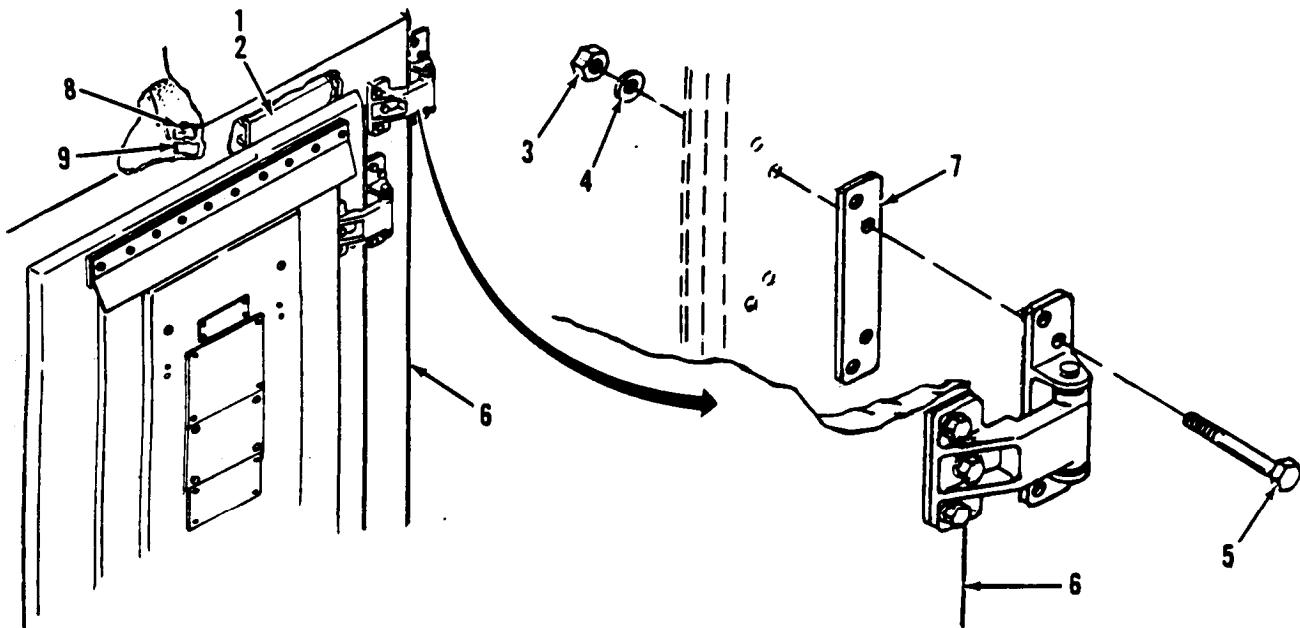

Figure 3-18. Outer Door Assembly Replacement.
*a. Inspect. (Figure 3-18)*
- (1) Inspect the outer door assembly (6) for external damage.
- (2) Inspect the silicone weather gasket (8) for tightness.
- (3) Inspect the RFI/EMI gasket (9) for wear and secure mounting on shielded shelter.
- (4) Inspect the door for positive closing and proper operation.
*b. Remove. (Figure 3-18)*
- (1) Remove and retain three phillips head screws (1) attaching door stay channel (2) to door panel, and pull channel away from door panel.
- (2) Remove and retain four nuts (3), lock washers (4), and hex head screws (5) attaching each of the three hinges to shelter.
- (3) Remove outer door panel (6) and three hinge spacers (7).
- (1) Door gasket (silicone and RFI/EMI) replacement (paragraph 3-18).
- (2) Door handle assembly and latching mechanism replacement (paragraph 3-19).
- (3) Keeper replacement (paragraph 3-20).
- (4) Hinge assembly replacement (paragraph 3-21).
(5) Door hasp replacement (paragraph 3-22).
a. Install. (Figure 3-18)
- (1) Coat both sides of each hinge spacer (7) with conductive compound.
- (2) Position each spacer (7) and outer door assembly (6) in place and secure each hinge to shelter with four hex head screws (3), lock washers (4), and nuts (5).
- (3) Position door stay assembly channel (2) in place and secure to outer door panel (6) with three phillips head screws (1).
- (5) Apply a continuous bead of sealer around spacer (7) and hinge bracket, and around head of screws (5).